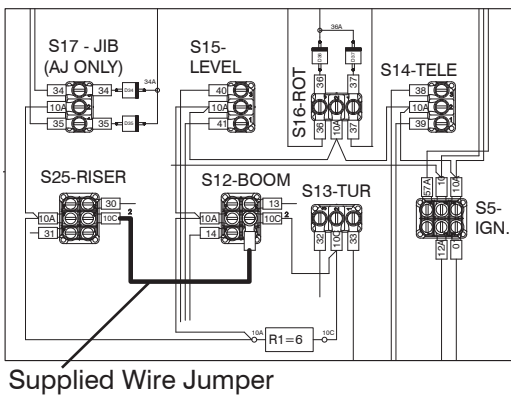

Figure 3-3. Jumper Wire Installation
6. Install one end of supplied jumper wire (156772) in terminal 2 of switch "S12-BOOM". See Figure 3-3.
7. Install other end of jumper wire in terminal 2 of switch "S25-RISER". See Figure 3-3.